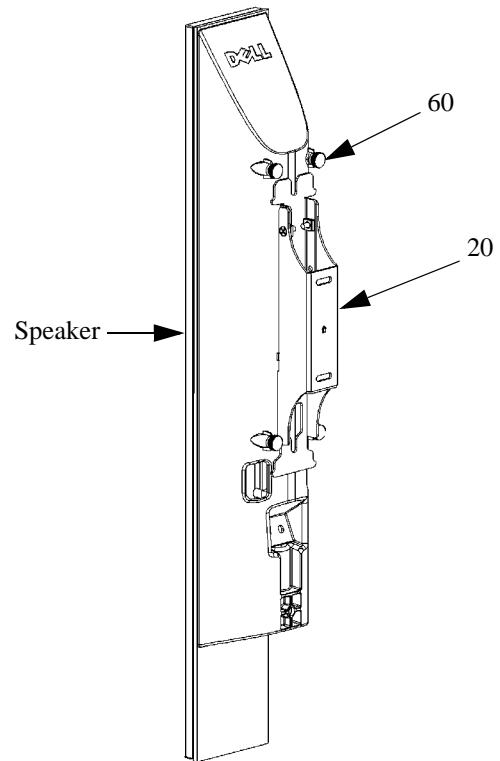

Figure 15: Loosen Four Thumb screws
1. While holding the speaker with one hand, loosen the four thumb screws (60) that attach the speaker to the wall bracket (20). (see Figure 15).